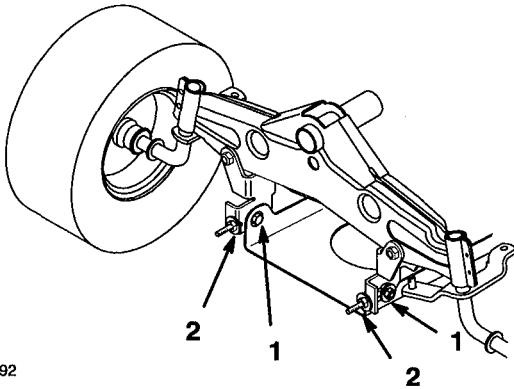

Figure 14
6. To adjust front-to-rear blade slope loosen front pivot plate mounting bolts slightly (Fig. 14).
7. Rotate lock nuts on eyebolts to change adjustment (Fig. 14). To raise the front of the mower tighten the eyebolt lock nuts. To lower the front of the mower loosen the eyebolt lock nuts.
8. After adjusting both eyebolt lock nuts evenly, check the front-to-rear slope again. Continue adjusting eyebolts until the front blade tip is 0-5/16" (0-8 mm) lower than the rear blade tip (Fig. 14).
9. When front-to-rear slope is correct, tighten the pivot plate mounting bolts (Fig. 14).